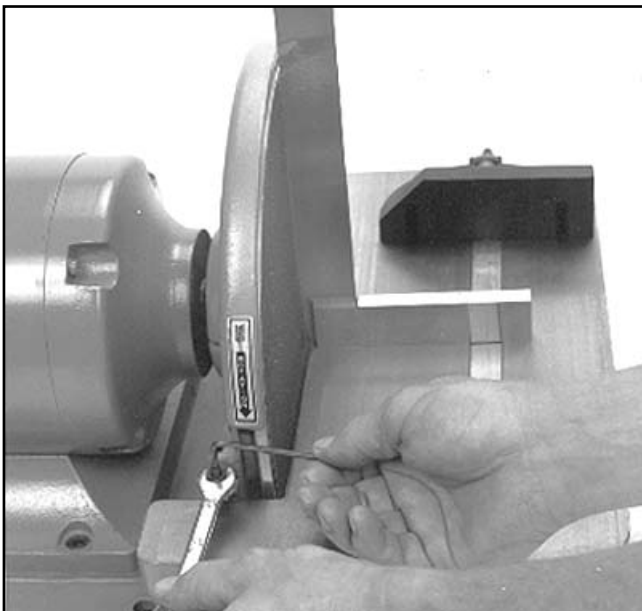

Figure 11. Adjusting disc table stops.
4. Place accurate square on table and against disc as shown in **Figure 11**.